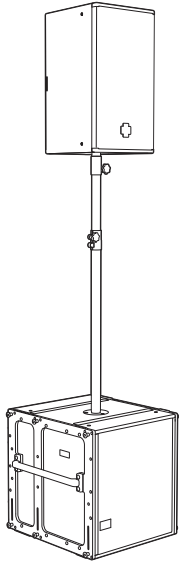

Figure 7: ULTRA-X40 pole-mounted on 750-LFC (ratio 1:1)
- LINA or ULTRA-X40 loudspeakers pole-mounted on top of a 750-LFC loudspeaker (Figure 3 and Figure 7)
For ULTRA-X40 applications, the ratio shown in Figure 7 yields good results.